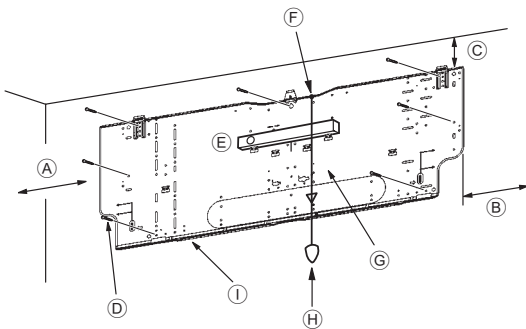
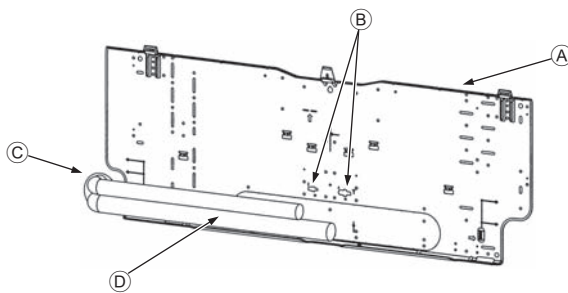

Fig. 3-4
Fig. 3-5
■ PKA-RP60, 71, 100KAL (Fig. 3-4)
- (A) Min. 90 mm (617.6 mm or greater with optional drain pump installation)
- (B) Min. 200 mm
- (C) Min. 70 mm (130 mm or greater with left, rear left, or lower left piping, and optional drain pump installation)
- (D) Fixing screws (4 x 25) ②
- (E) Level
- (F) Fasten a thread to the hole.
- (G) Place the level against the horizontal reference line of the mount board and mount so that it is level. Hang a weight from the thread and align with ▽ EPK of the mount board to permit leveling.
- (H) Weight
- (I) Mount board ①
3.3. When embedding pipes into the wall (Fig. 3-5)
- (A) Mount board ①
- (B) Reference marking for flare connection
- (C) Through hole
- (D) On-site piping